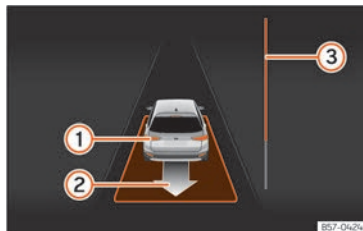

Fig. 201 On the instrument panel display: exit a parallel parking space.
The progress bar »» Fig. 201 ③ indicates the distance to cover »» page 277.